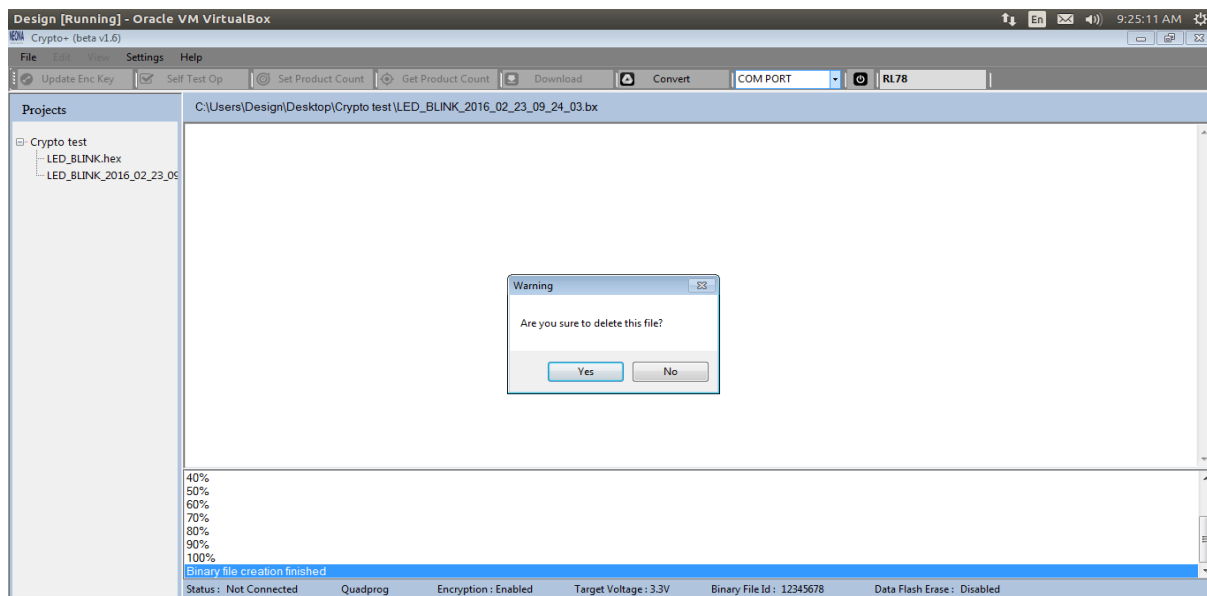

Figure 2.52
- **STEP 2:** A warning window will appear as shown in figure 2.52. If you want to proceed then click **Yes**. If the file is deleted successfully then a message ‘Deleted file Successfully’ will be shown in the text view.